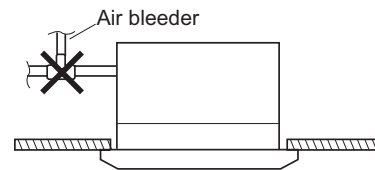

Fig. 2-150
- Do not install an air bleeder as this may cause water to spray from the drain pipe outlet. (Fig. 2-150)